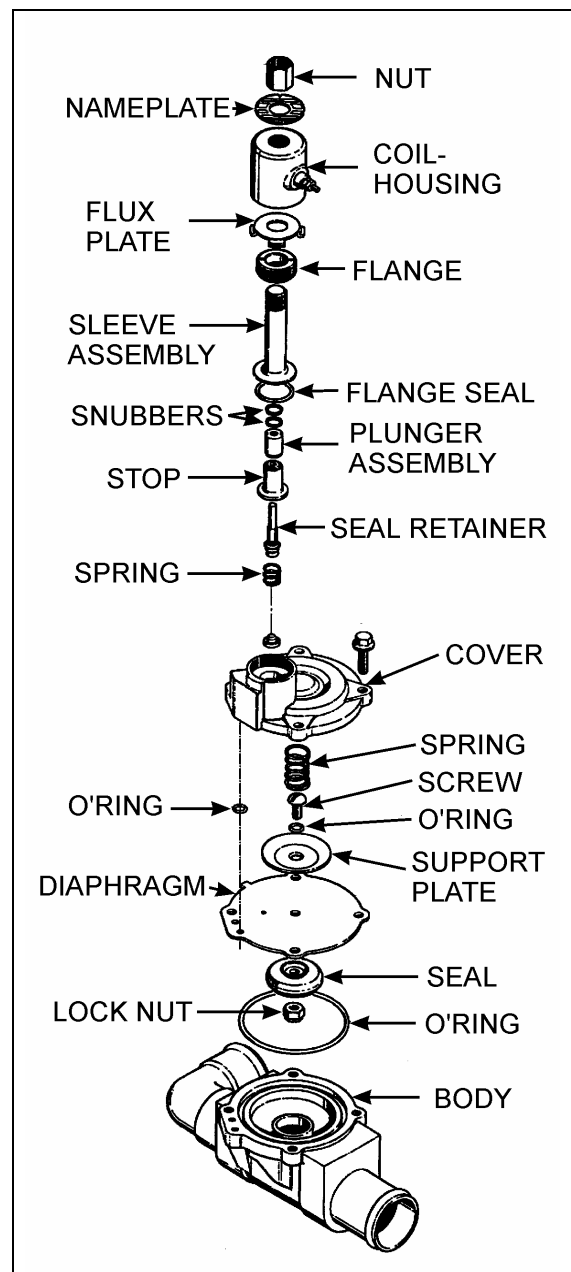

FIGURE 46: CENTRAL WATER SOLENOID VALVE 22183
2. Disconnect wires. Unscrew housing nut. The nameplate, coil housing, flux plate, wave spring and coil can be removed (Fig. 46).
1. Assemble the diaphragm to the seal by placing the O-ring on the screw, then the support plate, the diaphragm and seal (Fig. 46). Add the nut, tighten and torque to 45-55 lbf•in (61-75 N•m).
2. Place the O-ring in the body cavity and add the diaphragm assembly, seal side facing down. Line up the diaphragm with the hole in the body. The diaphragm has three (3) holes in a row; one is a bolt hole, the middle hole is not used and the third hole is used as a passageway on the body. Make sure holes are aligned correctly. The correct position will have the diaphragm tab over the "A" port. Also ensure that O-ring is added to the passageway hole in the diaphragm.